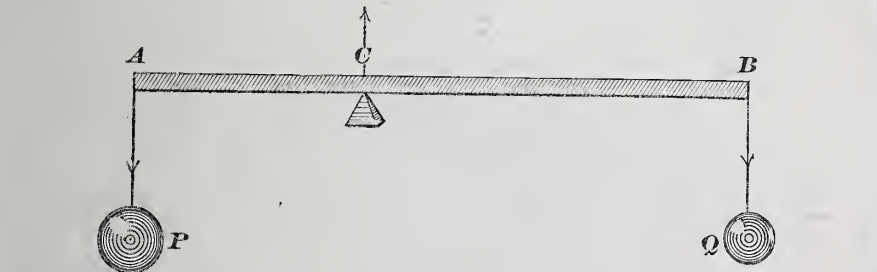
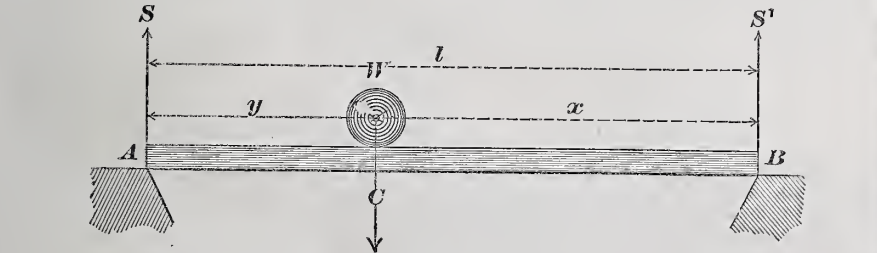

Fig. 5.—Lever Balance.
Fig. 6.—Beam Supported at Ends and Loaded at Center.
Suppose a beam, Fig. 5, suspended or supported at C, and loaded at A and B with the weights P and Q. If the beam is to remain horizontal, that is to say, balanced, then, according to the law of the lever, the following proportion between the weights must exist, viz.:
If we now turn Fig. 5 upside down, that is, have the beam supported at the ends A and B, and the load W applied at C, Fig. 6, the stresses will also be reversed, but their relations to each other remain the same; that is, calling the upward reactions of the abutments or supports, S and S', and the distance of the center of gravity of the load W from the abutments, respectively, x and y, then according to the law of the lever, we have,
but $S + S'$ is equal to W, because the sum of the abutment reactions can be neither more nor less than the load upon the beam, and from Fig. 5 we see that $(x + y) = l$, the length of the beam. Substituting these values in equation (2) we have
direction, the forces and the point being in the same plane. Taking moments around the point A in Fig. 6, we see that the weight W, acting at the distance or with the lever-arm y from A, tends to move the beam A B downward about the point A, while the abutment reaction S' at B, acting with the lever-arm l from the A, resists this downward motion. The moment of W in reference to A is $W \times y$, and the moment of S' in reference to A is $S' \times l$. If, therefore, the beam is to remain in equilibrium under the load W, these moments must be equal, that is,